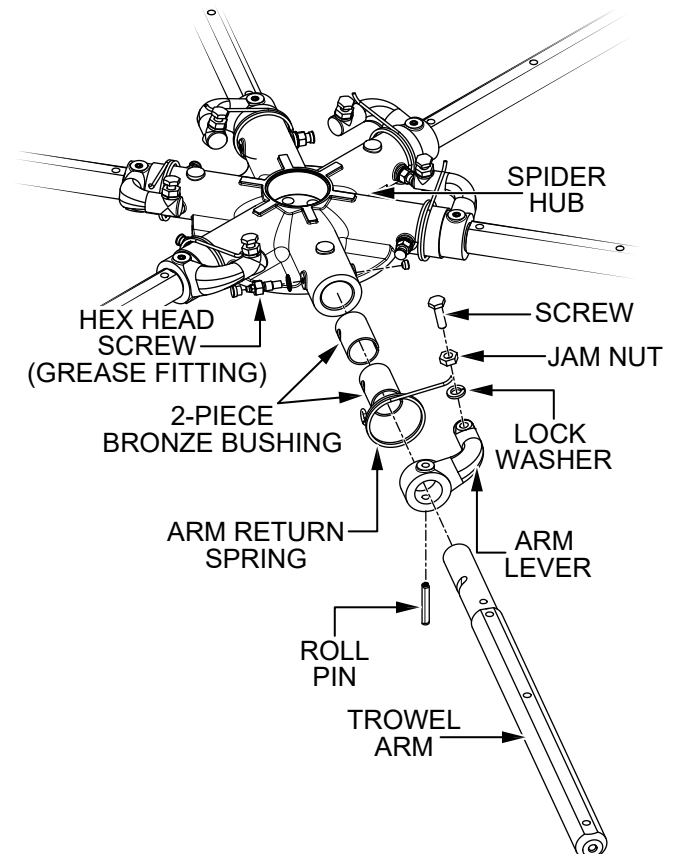

Figure 52. Trowel Arm Removal
- Each **trowel arm** is held in place at the **spider hub** by a hex head screw (Zerk grease fitting). Remove the **hex head screw** (Figure 52) from the spider hub.
3. Remove the **trowel arm** (Figure 52) from the **spider hub**.